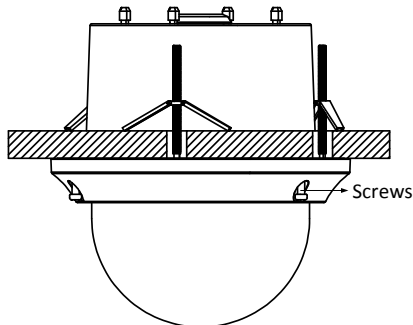

Figure 2-20 Install the Lower Dome
7. Secure the lower dome to the back box with three screws as shown in Figure 2-20.